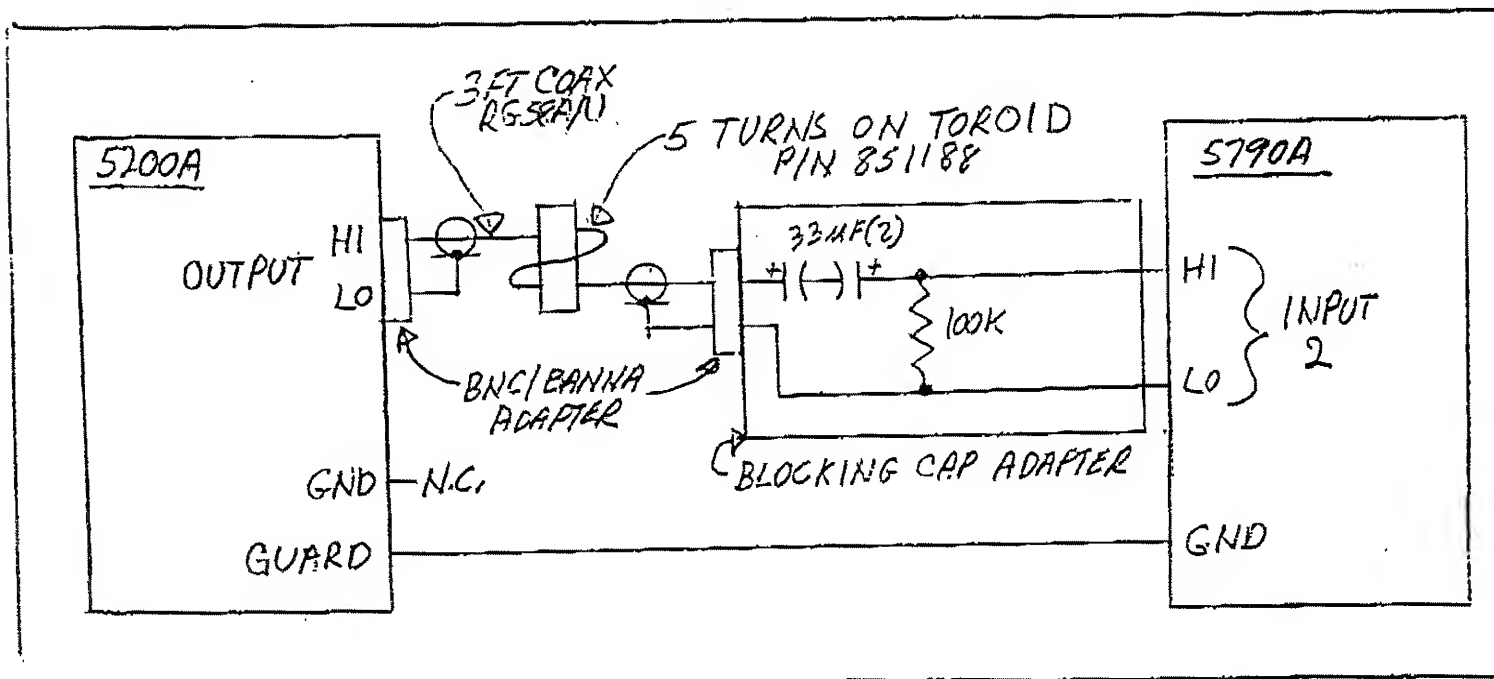

FIGURE 4-4b 1mV OUTPUT ACCURACY
j. Connect the equipment as shown in Figure 4-4b.